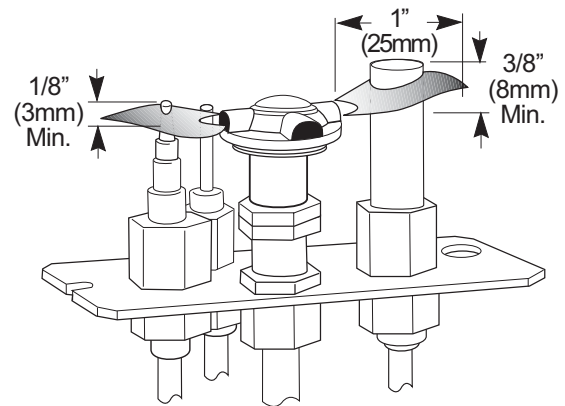

Figure 37. Proper pilot flame appearance.
**2. PILOT FLAME:** You can monitor the pilot flame through the view port located at the rear of the Right Log. See fig. 37. The pilot flame should be steady - not lifting or floating. The flame should be blue in color around the pilot hood, with traces of yellow toward the outer edges.
The pilot flame should engulf the top 3/8" of the thermopile (to generate millivolt current) and the top 1/8" of the thermocouple. The pilot flame should project out of the pilot hood 1" at all three ports. See fig. 37.